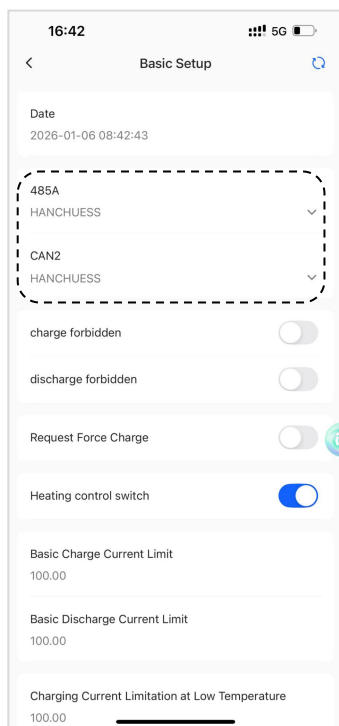

Figure 33
- Then enter the Battery Setting page, as shown in Fig. 33.